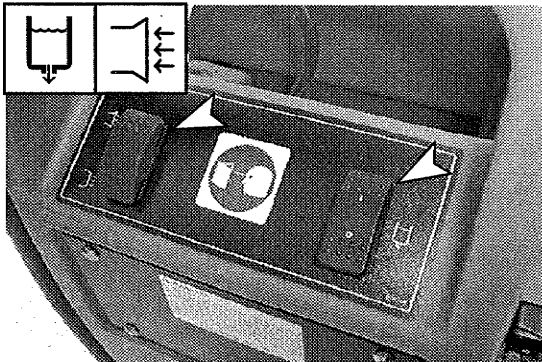

FIG. 17
2. Activate pump switch. If using gulper tool, press vacuum/blower switch towards vacuum symbol (Figure 17).